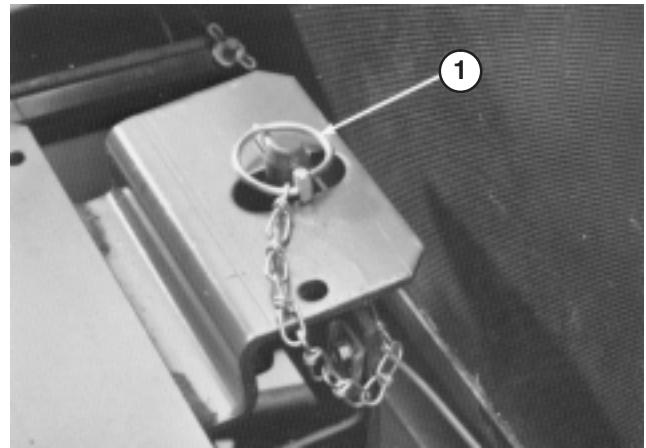

Figure 11
6. Disengage seat support rod and pivot downward. Pivot seat down and push lynch pin through seat latch stud. Flip wire end of pin over latch stud (Fig. 11).
8. Disengage seat support rod and pivot downward. Pivot seat down and push lynch pin through seat latch stud. Flip wire end of pin over latch stud (Fig. 11).